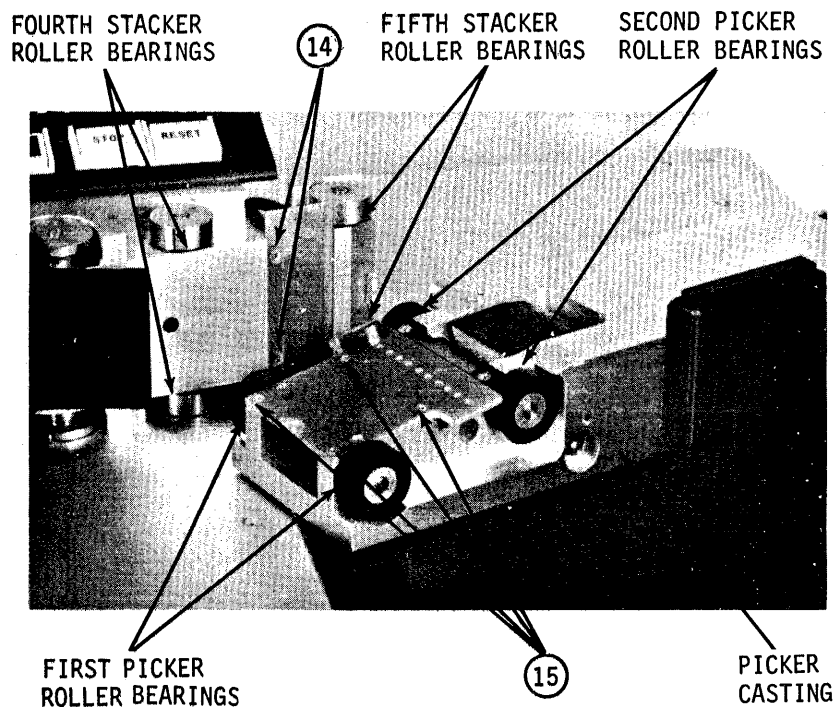

Figure 9-18. Picker Casting Removed From Reader
- q. Lift picker casting straight up and lay on chassis, figure 9-18.
- f. Remove two 440 x 1/4 flat head Phillips screws (14) to remove read head, figure 9-18.
- a. Remove four 256 x 1/4 flat head Phillips screws 15 to remove light station, figure 9-18.
- a. To replace the first picker roller bearings, LOOSEN the set screw in the bottom roller. Remove picker roller, figure 9-18.